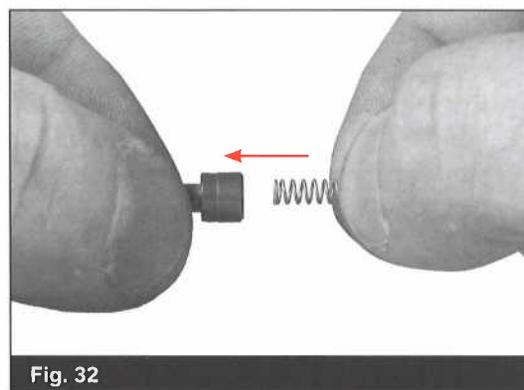

Fig. 32
- If the spring should become separated from the safety, merely press either end back into its receptacle in the bottom of the safety. Compress the spring fully and turn it ¼ turn counter clockwise. When the spring is reattached, it should be reattached to the safety. If the spring is not firmly attached, it may fall into the recess and not provide proper spring tension to the safety. (Fig. 32/33)